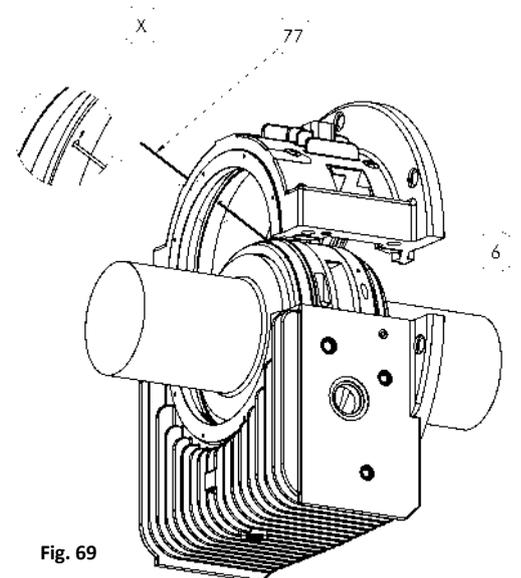

Fig. 69
- After mounting the top half of the shell (6), insert the thermo-sensor cable (77) into the corresponding channel in the upper half of the shell (fig. 69).
- Move the housing until close to the shell. Insert the cable of thermo-sensor through the tapped hole (X) on the top half of the housing.
- Screw the thermo-sensor head block (72) with copper ring (73) or by a cable gland into the tapped hole (X). Use a Teflon tape or sealant compound